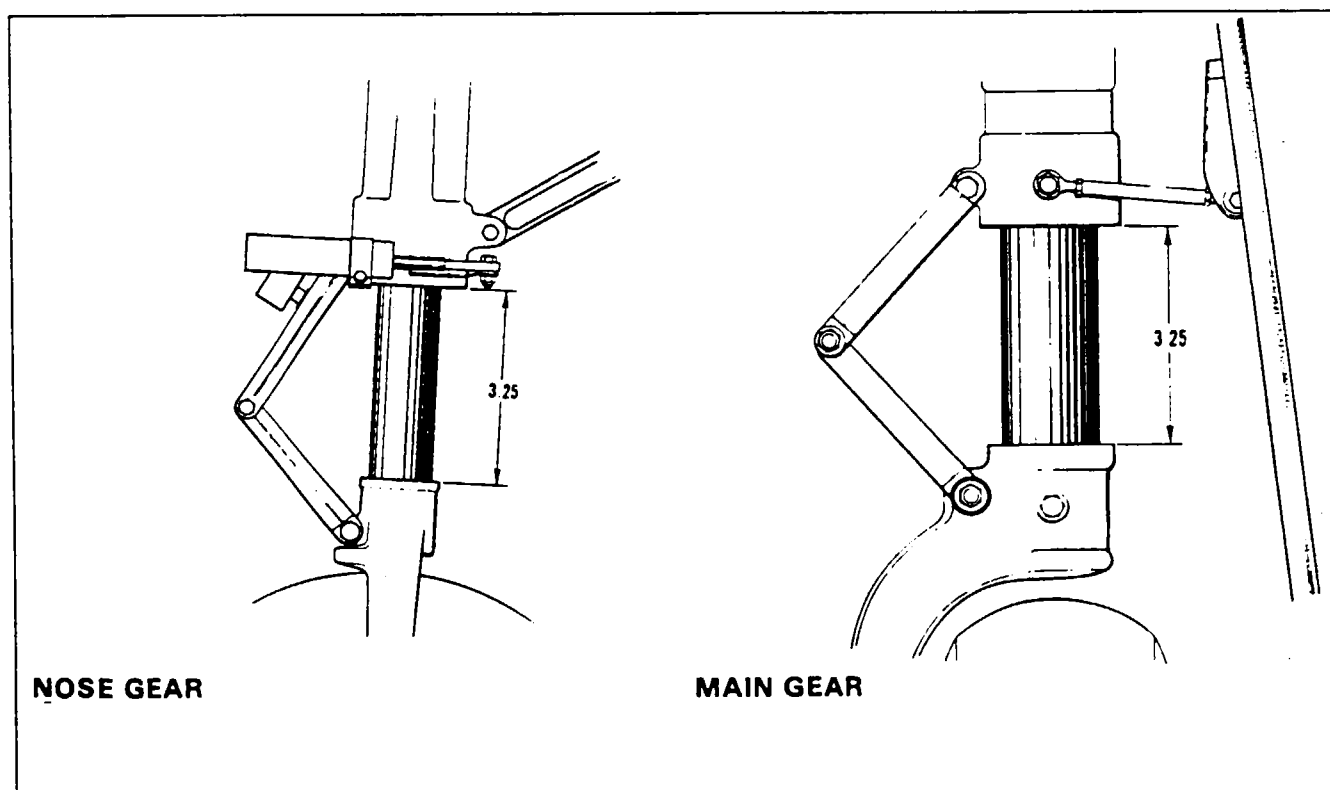

Figure 12-2. Landing Gear Strut Exposure
8. Inflate the oleo struts in accordance with information in Figure 12-2.